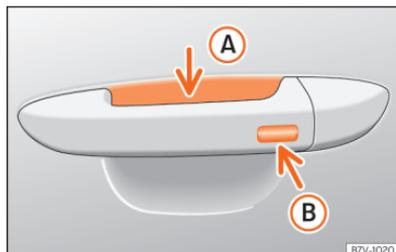

Fig. 51 Driver door handle: sensor surfaces.
»» Fig. 51
- Touch the sensor surface >>> Fig. 51 Ⓑ on the outside of the door handle. All turn signals flash once.
- Within 5 seconds, touch the sensor on the outside of the door handle >>> Fig. 51 Ⓑ once. Do not grip the handle while doing so. This temporarily deactivates the Keyless Access system.
To close all the electric windows using the comfort function, keep a finger on the locking sensor surface >>> Fig. 51 Ⓑ [arrow] of the door handle for a few seconds until the windows have closed.